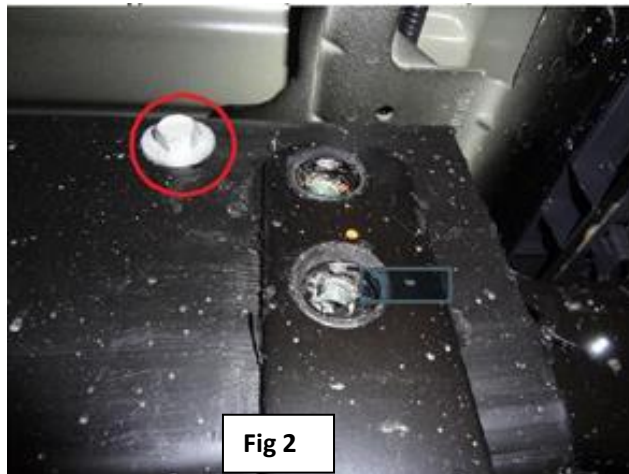

Fig 2
3. Remove the six bolts (three per side) attaching the stock bumper to the chassis using a 21mm wrench. Remove the remaining two bolts (circle in red) with a 15mm wrench **(Fig 2 & Fig 3)**.